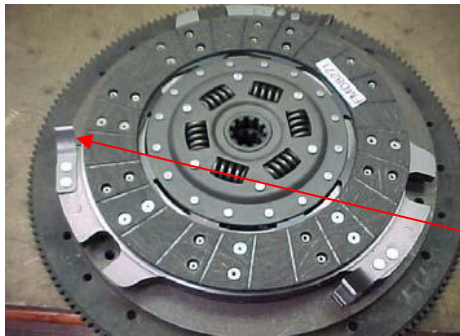

Fig.3
2. Before installation of the Centre Drive Plate, ensure that a light film of high temperature lubricant is present on the inside surfaces of the drive slots. (See Fig.2). Locate the Centre Drive Plate over the adaptors with the Centralising Spring Clips to the right or clockwise to the adaptors (Fig. 3).
3. Position the Driven Disc FMD 8271 with the “Pressure Plate Side” stamp facing rear of the vehicle (Fig. 3).